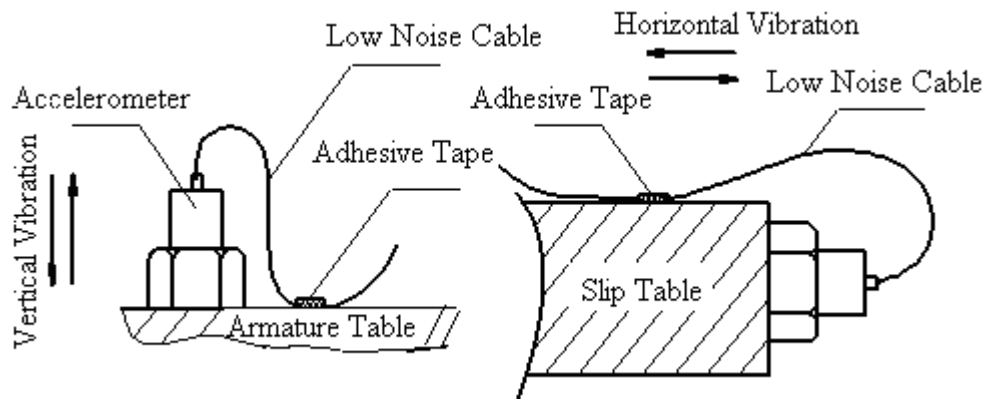

Figure 3-1 Accelerometer Mounting
- Mount an accelerometer on the shaker table as recommended by Figure 3-1. Ensure that the accelerometer is isolated from the shaker table to prevent ground loops.